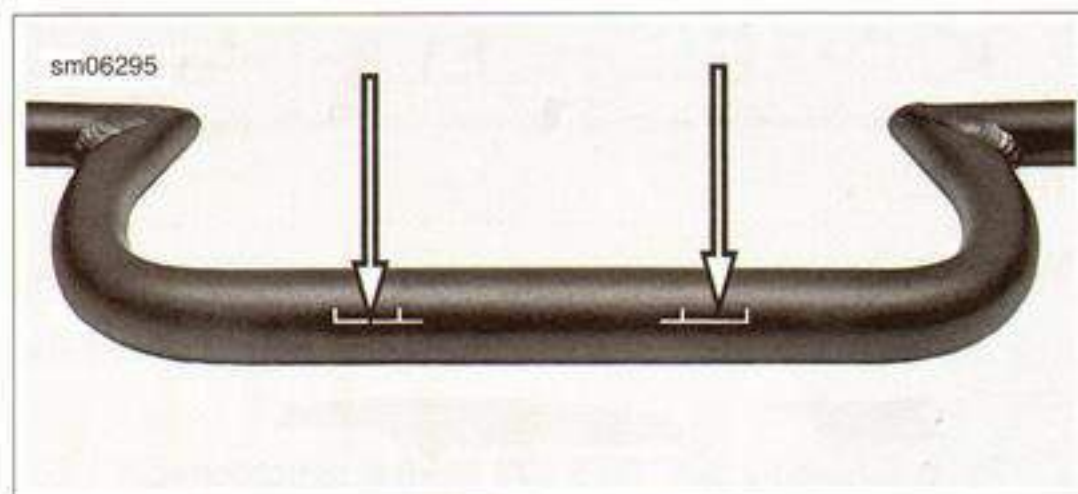

Figure 2-149. Clamp Alignment Marks
3. See Figure 2-149. To install, fit the handlebar to clamps on triple clamp, aligning etchings on handlebar with split between the upper and lower clamp.